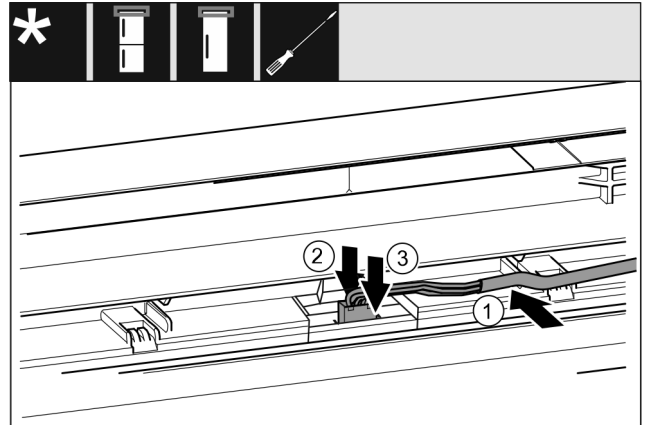

Fig. 41 Fridge/freezer combinations / freezers / refrigerators
- ▶ Insert the cable Fig. 41 (1) into the guide in the top door.
- ▶ Push the latching tab Fig. 41 (2) backwards.
- ▶ Engage the plug Fig. 41 (3).